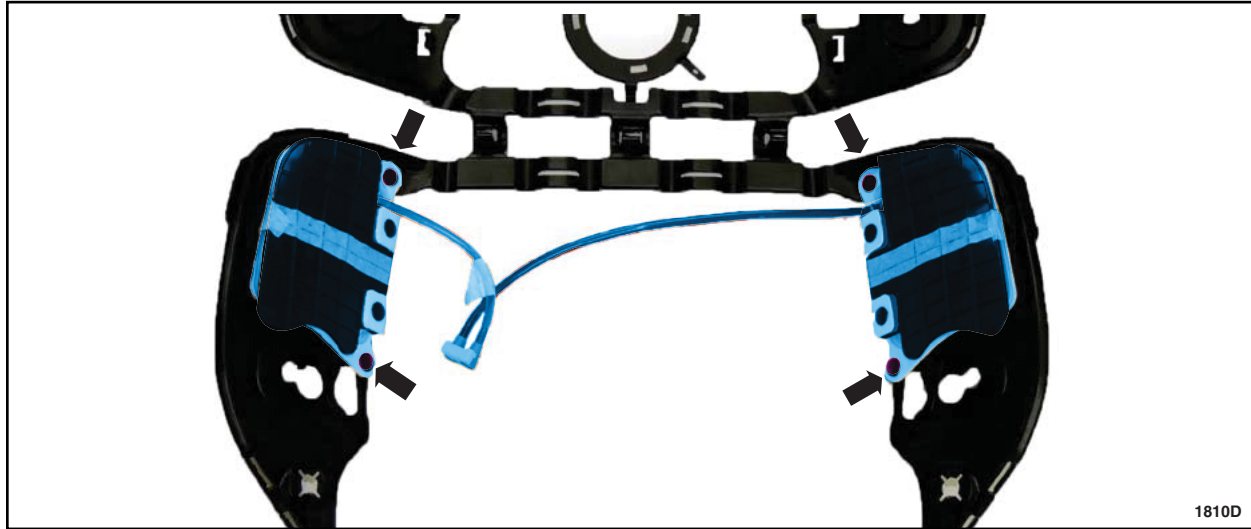

FIGURE 4
5. Release the pin-type retainers and remove both multi-contour bladders. See Figure 4.